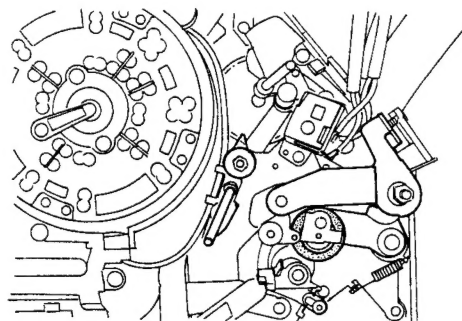

Fig.3-23
1. Supply DC 3V to the LOADING MOTOR and set the loading mechanism to the "half loaded position" as shown in Fig.3-23.